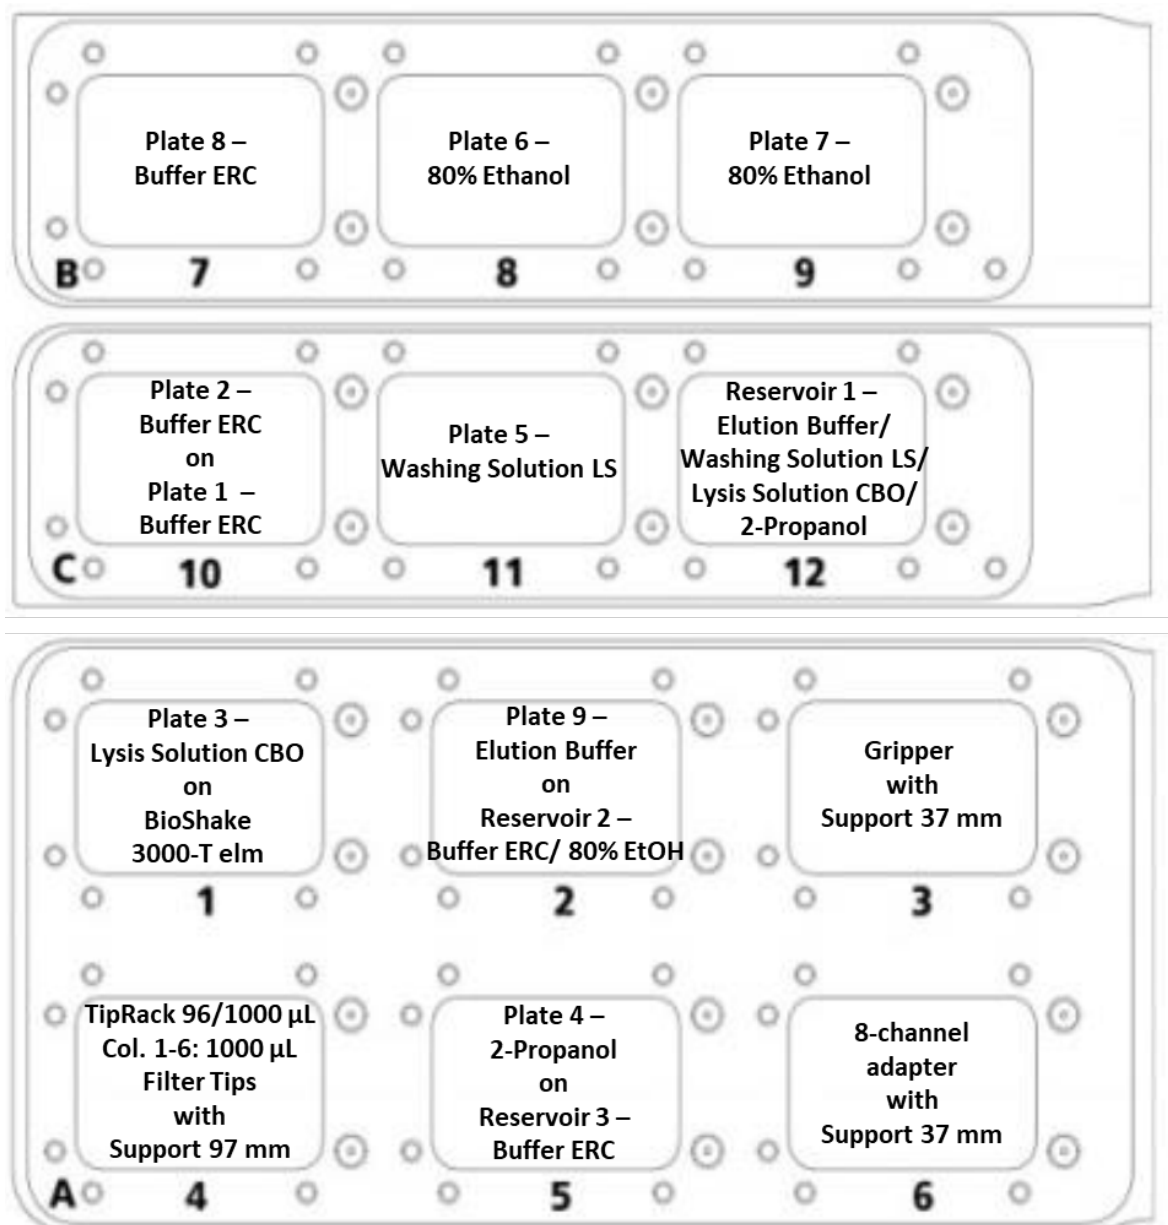

Figure 21: Deck layout for the prefilling protocol for 600 to 1000 μ L sample volume.
6. Transfer 40 mL **2-Propanol** into column 4 of the reservoir labeled "Reservoir 1 - Elution Buffer/ Washing Solution LS/ Lysis Solution CBO/ 2-Propanol". Place the filled reservoir into the CyBio FeliX on position 12 (\rightarrow see **Figure 21**).
8. Transfer 120 mL **80% Ethanol** into the **right** side of the 2 column reservoir labeled "Reservoir 2 – Buffer ERC/ 80% Ethanol". Place the filled reservoir into the CyBio FeliX on position 2 (\rightarrow see **Figure 21**).
9. Transfer the content of two bottles (2 x 110 mL) **Buffer ERC** into the reservoir labeled "Reservoir 3 – Buffer ERC". Place the filled reservoir into the CyBio FeliX on position 5 (\rightarrow see **Figure 21**).
11. Place the CyBio TipRack 96/1000 μ L into the CyBio FeliX on position 4 (\rightarrow see **Figure 21**).
12. Place the 8-channel adapter (Head R 96) with the support 37 mm into the CyBio FeliX on position 6 (\rightarrow see **Figure 21**).
13. Place the empty, labeled plates on the CyBio FeliX deck according to the deck layout for the prefilling protocol for up to 1000 μ L sample volume (\rightarrow see **Figure 21**).